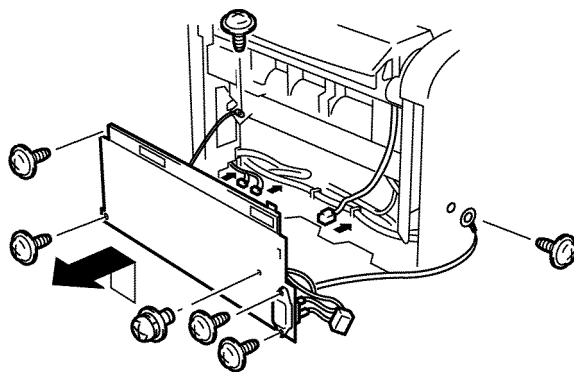

Figure 2
5. Remove five screws, disconnect two ground harnesses, disconnect CN1 from the HVPS and CN3 on the LVPS, then remove the power unit assembly as shown in Figure 2.